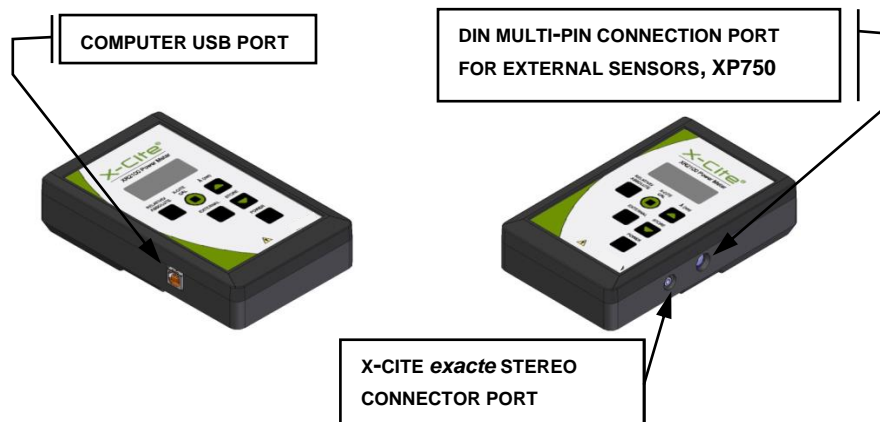

Figure 2: XR2100 Optical Power Meter Connections
1. Plug the XP750 multi-pin connector into the XR2100. Refer to Figure 2 for connecting cable locations.